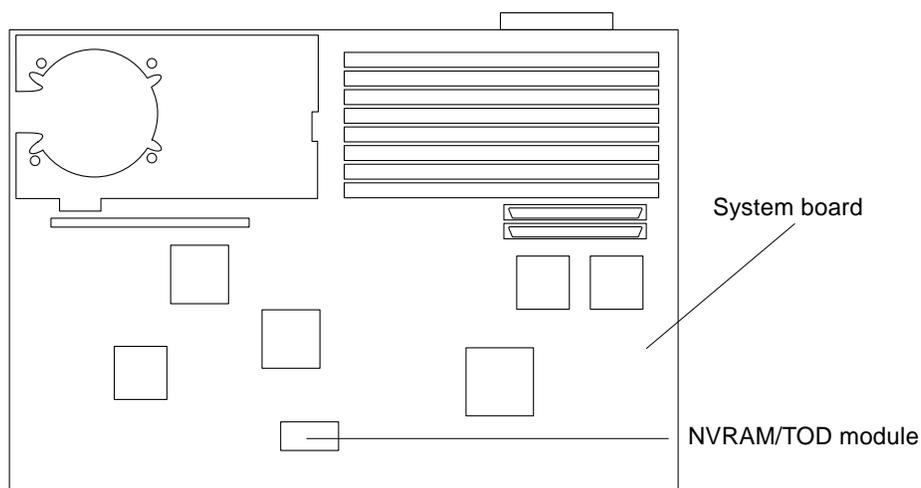

Figure 2-6 NVRAM/TOD Module Location
1. **Locate the NVRAM/TOD module on the system board (Figure 2-6).**